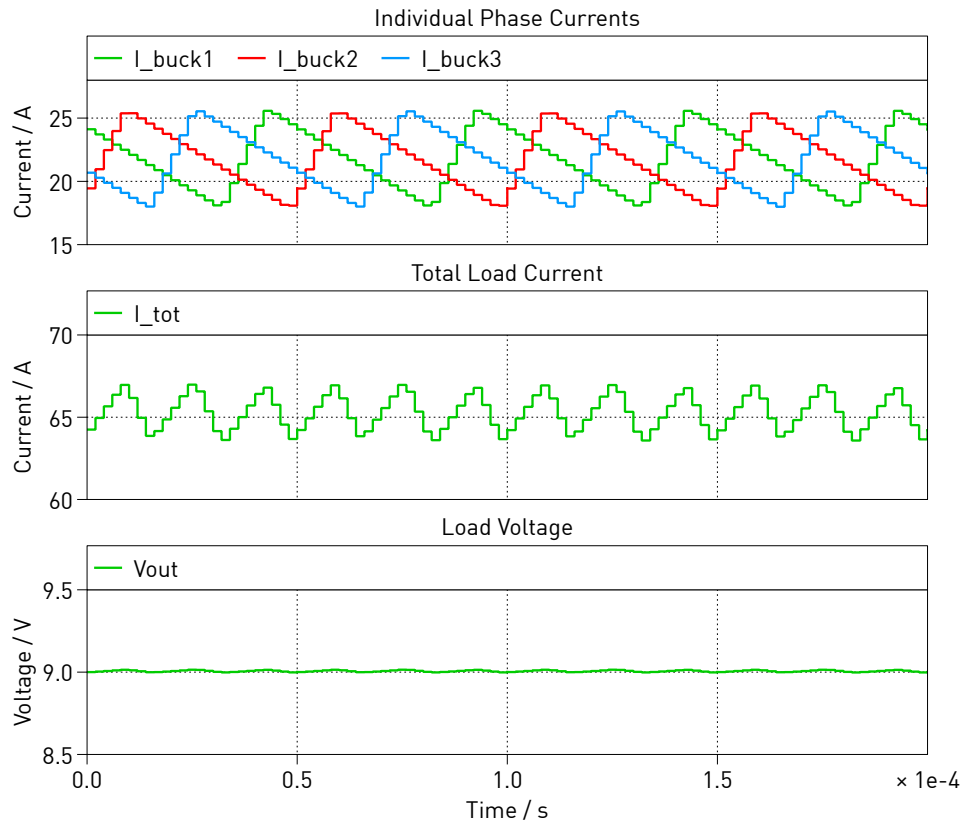

Fig. 4: Simulation results with all three phases active
- After building each subsystem inside the model onto the corresponding Box, the real-time simulation waveforms should look like in Fig. 4. In the default setup of the demo, both extra load resistor branches are turned on. This gives the minimum load resistance, therefore the highest load current. In this scenario all three buck converter branches are controlled to be active, balanced and interleaved with a 120-degree phase shift among them.